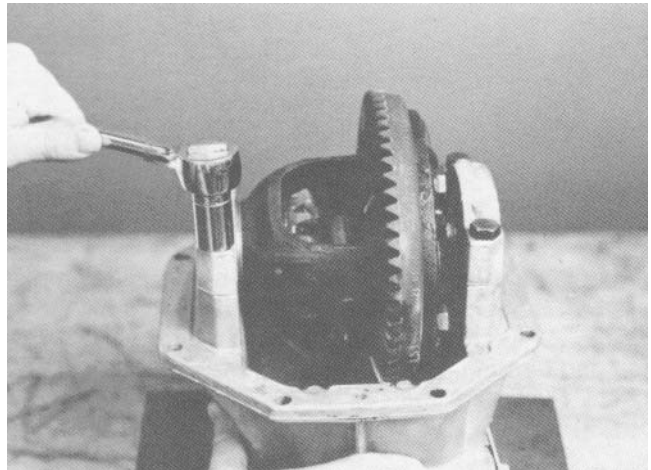

Figure 24
3. Remove the four bearing cap screws and remove the caps. Place the caps in a safe place to avoid damaging their machined surfaces (Fig. 24).